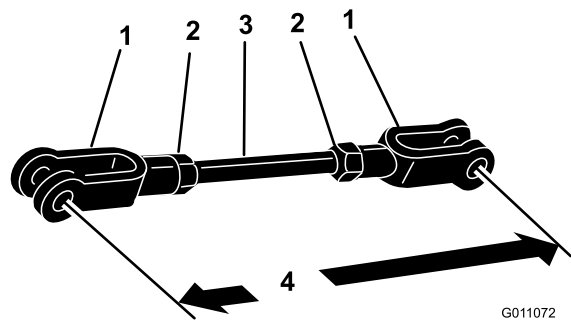

Figure 12
6. Install the nuts and yokes onto the threaded rod (Figure 12).
7. Adjust the yokes until the center of the holes are 9 inches (228.6 mm) apart (Figure 12).